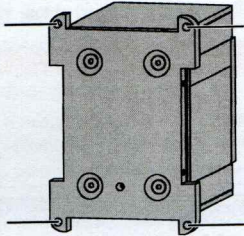

Fig. 15: C9900-U332_mounting plate
2. Remove the fastening screws at the marked points (see Fig. 15).